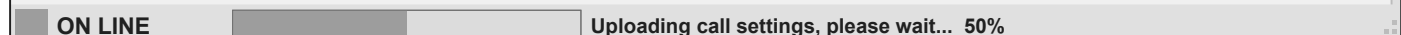

Fig. 128
- **UPLOADING (ON LINE):** see **Fig.128**, this indicates that the software is currently uploading any programmable settings, call button numbers/apartment numbers, dial to open numbers etc. to the GSM module.